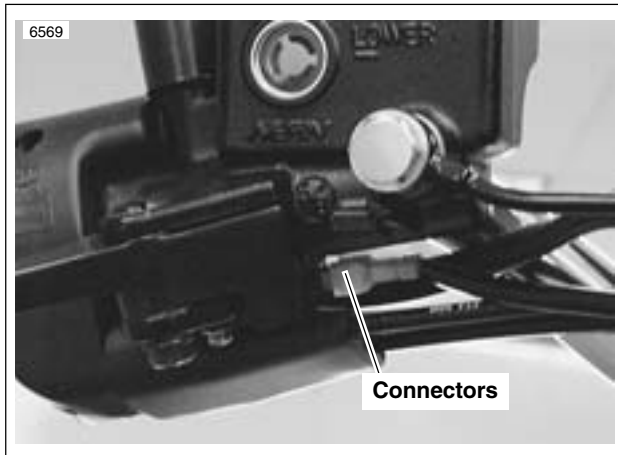

Figure 2-26. Brake Lamp Switch Connectors
2. Connect brake line (5) to master cylinder using two **new** banjo washers (4) and banjo bolt (6) (metric). Tighten to 16-20 ft-lbs (22-27 Nm).
3. See Figure 2-26. Verify brake lamp switches are tight.